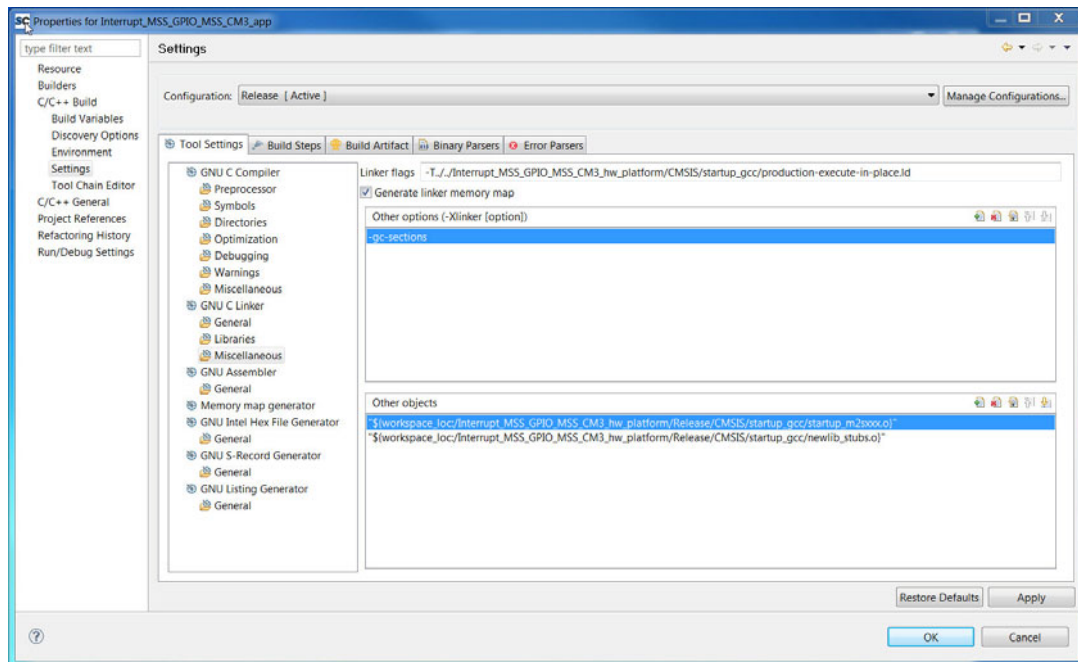

Figure 6-16 • Linker Script Settings
3. Provide the release mode linker script file to the linker by changing the 'Linker flags' field to "-T././Interrupt_MSS_GPIO_MSS_CM3_0_hw_platform/CMSIS/startup_gcc/production-execute-in-place.ld", as shown in Figure 6-16. This step directs SoftConsole to use the production linker script, instead of the default linker script (that allows debugging), to build the application image for the Release Application.